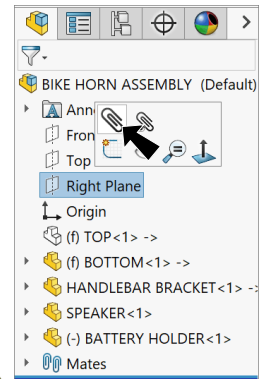

Fig. 21
Step 1. Click **Right Plane**  in the Feature Manager and click **Mate**  on the context toolbar, **Fig. 21**.